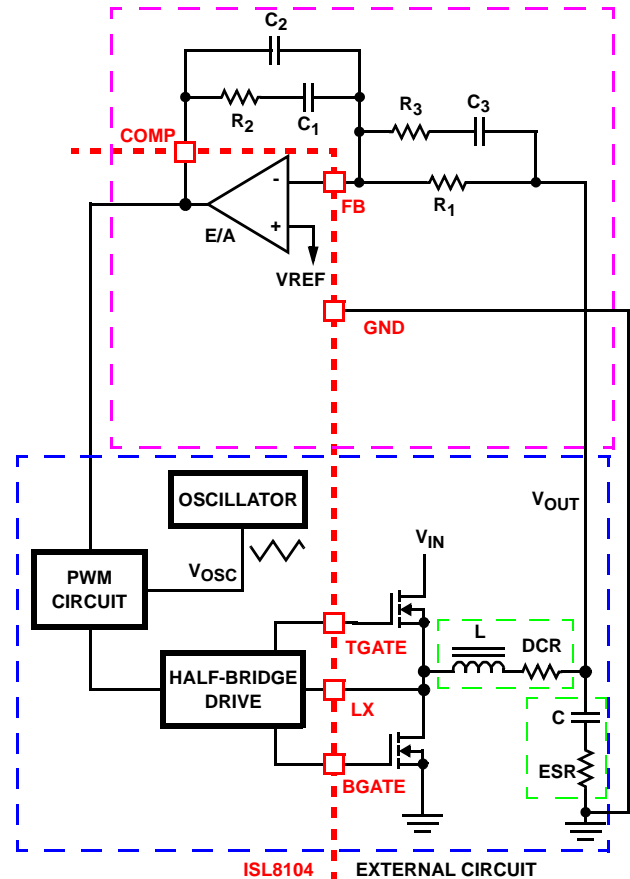

FIGURE 7. VOLTAGE-MODE BUCK CONVERTER COMPENSATION DESIGN
Figure 7 highlights the voltage-mode control loop for a synchronous-rectified buck converter. The output voltage is regulated to the reference voltage level. The error amplifier output is compared with the oscillator triangle wave to provide a pulse-width modulated wave with an amplitude of V_{IN} at the LX node. The PWM wave is smoothed by the output filter. The output filter capacitor bank's equivalent series resistance is represented by the series resistor ESR.
1. Select a value for R_1 (1k Ω to 10k Ω , typically). Calculate value for R_2 for desired converter bandwidth (F_0). If setting the output voltage to be equal to the reference set voltage as shown in Figure 7, the design procedure can be followed as presented.